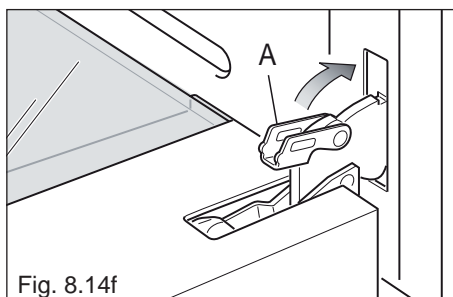

Fig. 8.14f
- Unlock the oven door by opening it completely and closing the lever "A" on the left and right hinges (fig. 8.14f).